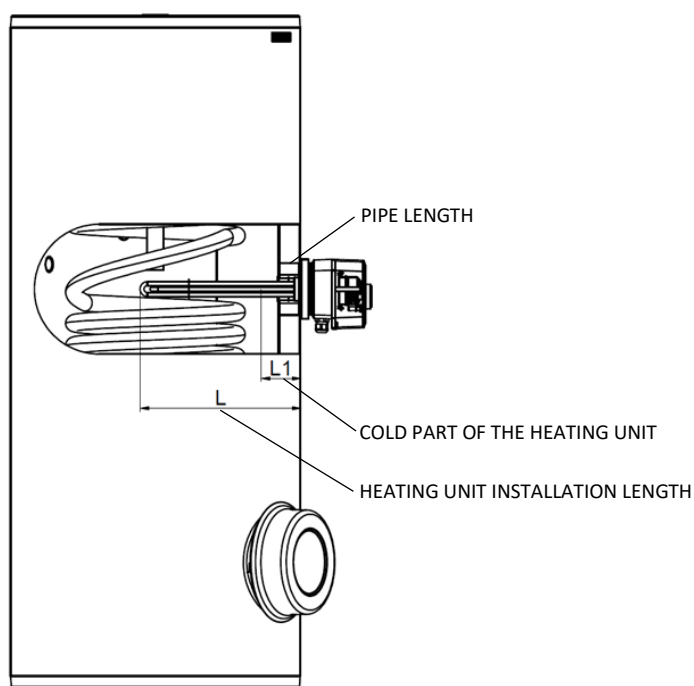

Figure 3
***Attention!** In the TJ 6/4" 3.3kW heating unit, the cold part is shorter than in other types. The pipe must be as long as the length of the TJ cold part - see Fig. 3
- **For the installation lengths of the heating units L and L1, see table 1 and figure 3.**